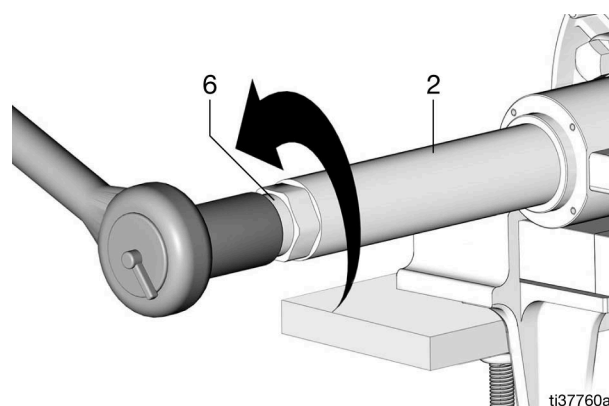

FIG. 10
12. Using a 1-7/16 in. socket, loosen the seal retainer (6) but leave it hand-tight to the pump cylinder (2) (FIG. 10).